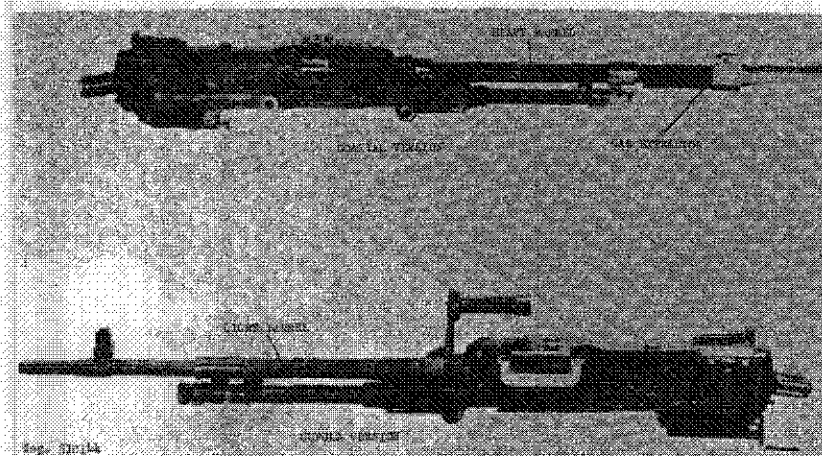

Figure 145. Tank versions of the M.A.G./L7A1.
c. The British have several versions of their L7 series machinegun. These include the L8A1 (fig 145) and the L37A1 guns installed on armored vehicles. These guns, while basically L7 weapons, have special barrels and triggering mechanisms, and may have a gas extractor tube fitted under the barrel. These guns also may have butt stocks and bipods for emergency dismounted use.